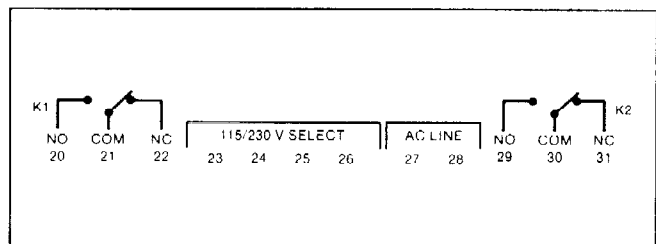

Figure 4-5. Relay Outputs.
- a. Relay(s): Wire per Figure 4-5. Relay contacts have no internal connection to power and must be energized externally.